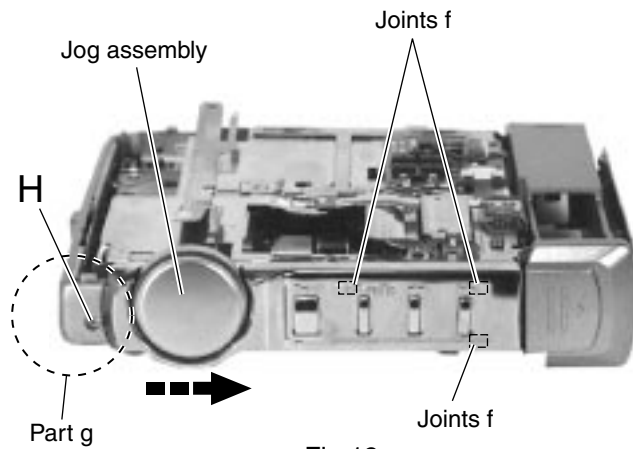

Fig.12
■ Removing the LCD assembly and the 5 key sheet (See Fig.12 to 15)